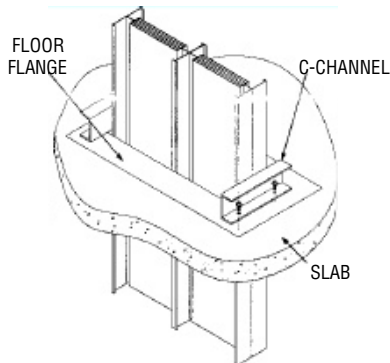

Figure 1
- 7.2 Drill the C-Channel with opening hole of  $\phi 14\text{mm}$  to accommodate the fixed support rod. Locate the hole in line with the centerline of the side of the busduct housing. The distance in between these two holes from center to center is 65mm [E]. (Figure 1)
Then, drill the busduct housing with opening hole of  $\phi 12\text{mm}$  with the height around 190mm [F] from the top of the C-Channel for installing the L-Channel Bracket by using M10 bolts supplied. The distance in between these two holes from center to center is 60mm [G]. (Figure 1)